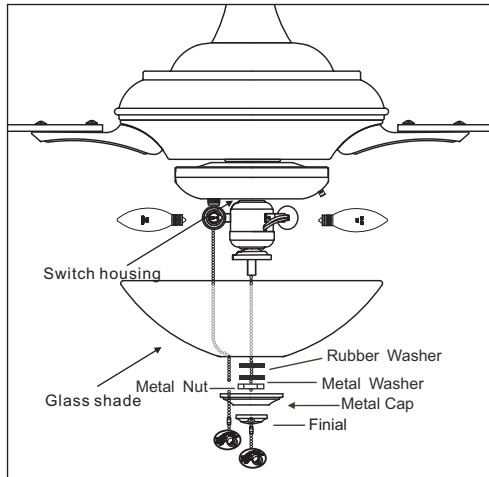

Figure 20
6 Place the 3 bulbs (40 Watt, included) into the Light kits.(Figure 20)
8. Install the glass shade, along with 2 washers previously removed, twist with the metal nut; install the metal cap, then twist the finial securely. (Figure 20)